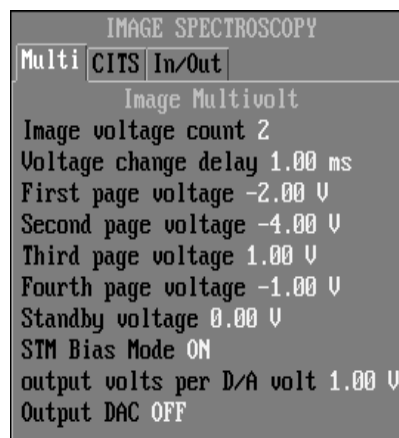

Figure 29
The versatility of the SPM 100 also allows for another type of data acquisition that can be very useful when studying certain materials. A measurement can be setup to scan a single line and then before incrementing in the y direction, the sample bias can be changed and the linescan repeated over the same area of the surface. Up to four images can be acquired at a single location on the surface, and the settings to use in this acquisition method are changed in the window displayed in Figure 29. The various images acquired in this manner can then be compared and features seen in the two images can easily be correlated with each other. A good example of the usefulness of this techniques is when imaging the cleaved (110) face of any III-V semiconductor. Both anion and cation dangling bonds are present on the surface and the anion sites are imaged with a negative sample bias while the cation sites are imaged with a positive sample bias.
The first tab is shown in Figure 29 and this window can be used to set the different imaging conditions needed to obtain a related set of images.